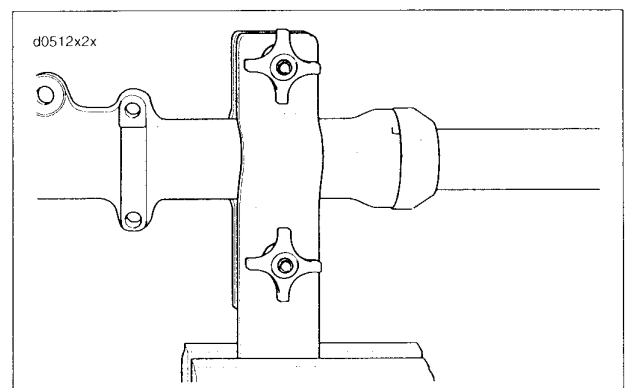

Figure 2-90. Fork Tube Holder
8. See Figure 2-90. Position fork slider in vise using FORK TUBE HOLDER (Part No. HD-41177) to avoid damage.